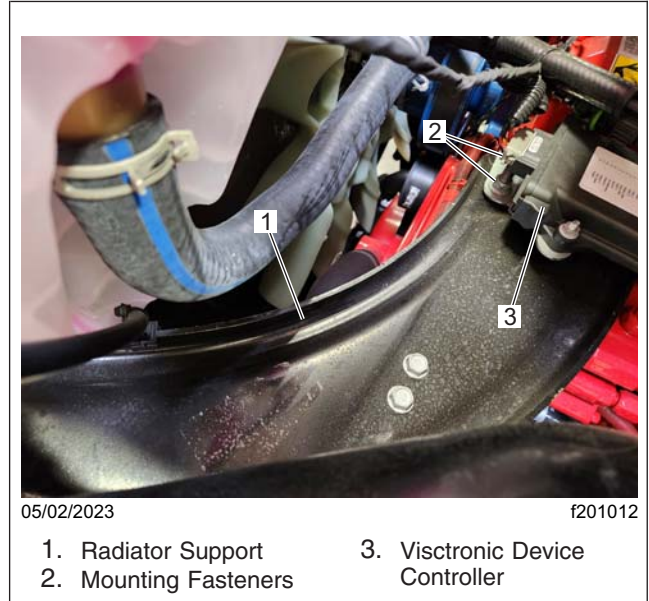

Fig. 10, Visctronic Device Controller Mounted on the Radiator Support
11. Remove the two fasteners that attach the visctronic device controller to the radiator support. See Fig. 10.